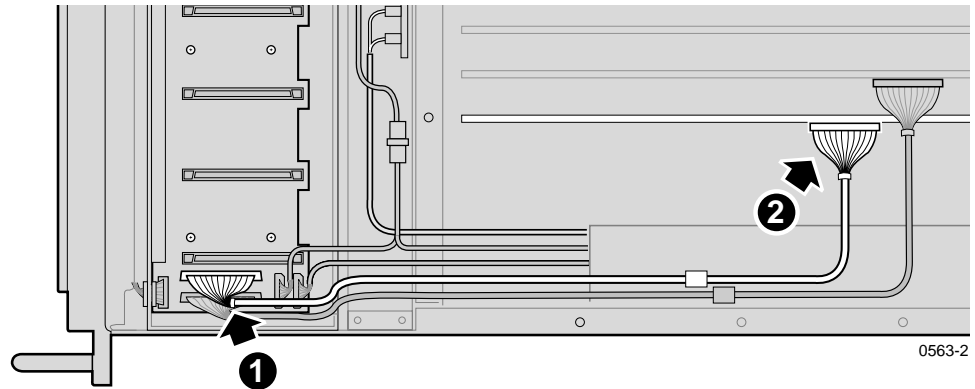

Figure 9. Installing the SCSI Cable In a Profile System With a Slave EDR Board
2. Connect one end of the SCSI cable to the unused connector on the SCSI backplane (❶ in Figure 9).
5. Connect the free end of the cable to the top-rear SCSI header connector of the Slave EDR board (❷ in Figure 9).